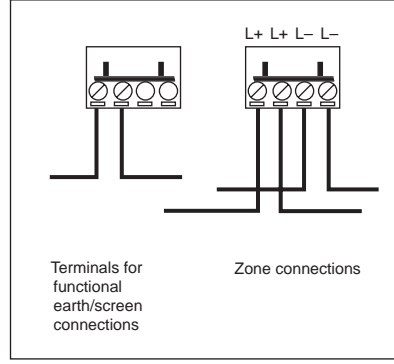

Fig 3 Terminal block connections
2. Run the cables into the backbox and connect them to the terminal blocks as shown in Fig 3. Ensure that functional earth/screen continuity is maintained. Screens should be connected to the yellow terminal block marked 1–4 on the black PCB cover.
4. Unlock the small front cover by inserting the forked key and pushing it home. Pull the cover down and towards you and remove the deformable element. Connect the terminal blocks as shown in Fig 3, secure the call point to the backbox and refit the deformable element as required. Finally, replace the front cover in the reverse order in which it was removed and push it up until it locks.